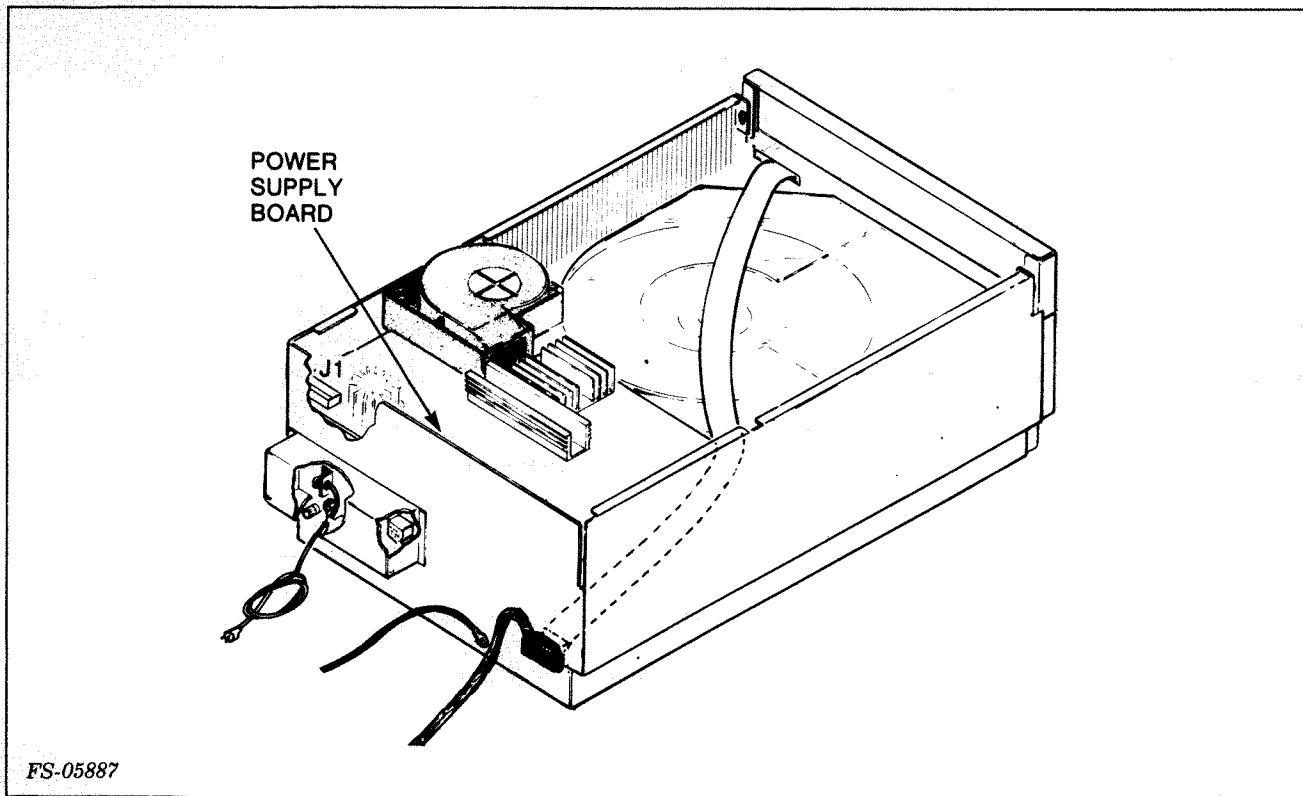

Figure 5-19. Power Supply PCB Location
2. Unplug all connectors from the top of the power supply PCB (see Figures 5-19 and 5-20).
5. Unplug the three connectors and two ground straps (see Figure 5-19) from the bottom of the power supply PCB. Remove the PCB from the drive.